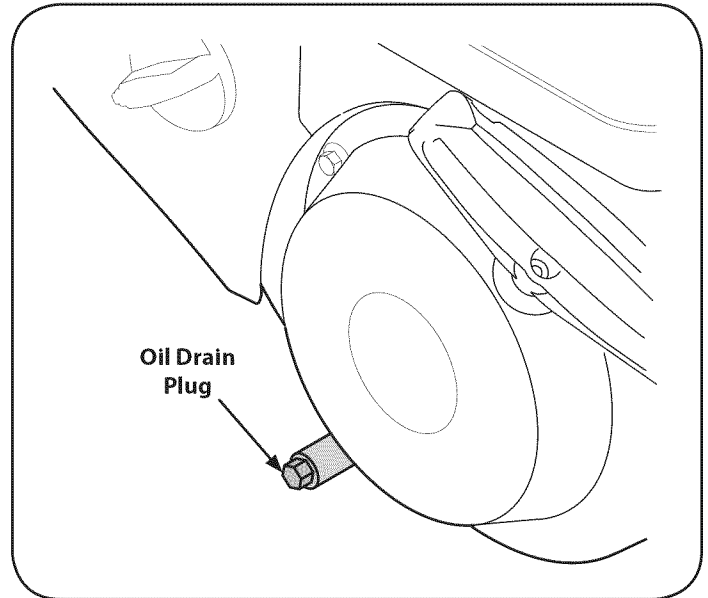

Figure 14
3. Remove oil drain plug. See Figure 14 on next page.